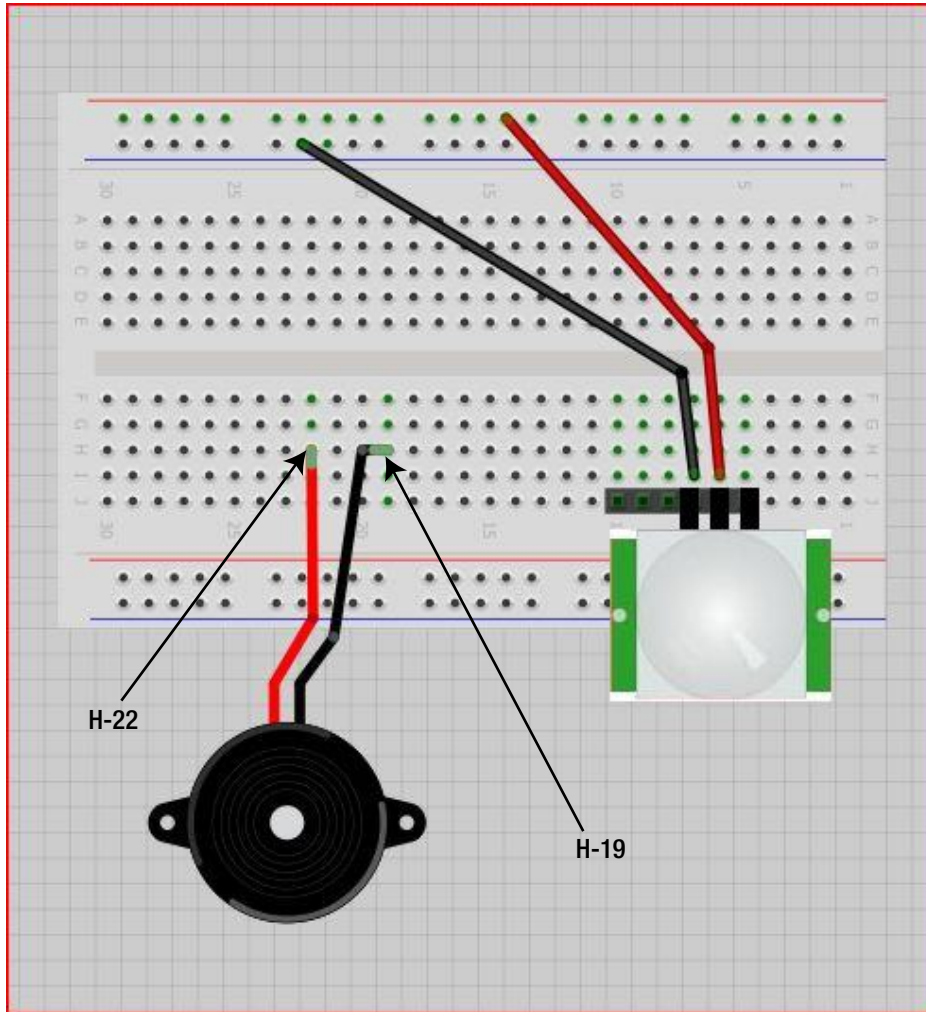

Figure 19-7. Attach the buzzer to the solderless breadboard
6. Now it's time to attach the buzzer. Insert the buzzer into the breadboard so that one of the buzzer's pins goes into H-19 and the other pin into H-22. Figure 19-7 illustrates this process. If you're not sure which pin is which, take a close look because they are labeled.